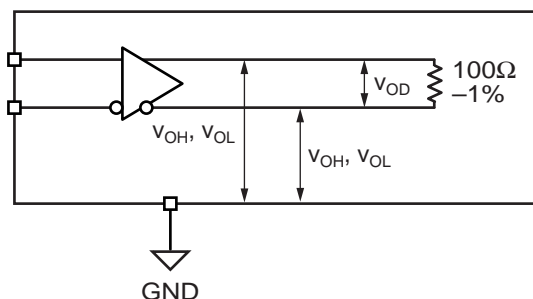

Figure 3a. LVDS Differential Measurement
**Note 3.** Measured as per Figure 3a,  $100\Omega$  across Q and /Q outputs.